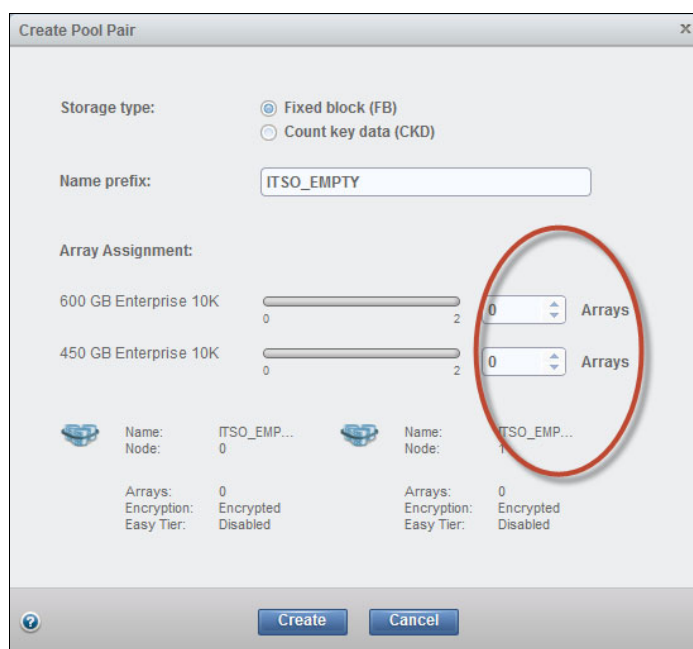

Figure 11-29 Create an empty pool pair with no assigned arrays
1. Create a pool pair, as shown in Figure 11-29. However, do not assign any arrays to new pool pair.